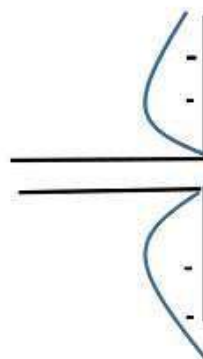

Fig 2
- Fig 2 shows the dipole with negative charges induced. The electrons here tend to move away from the dipole.